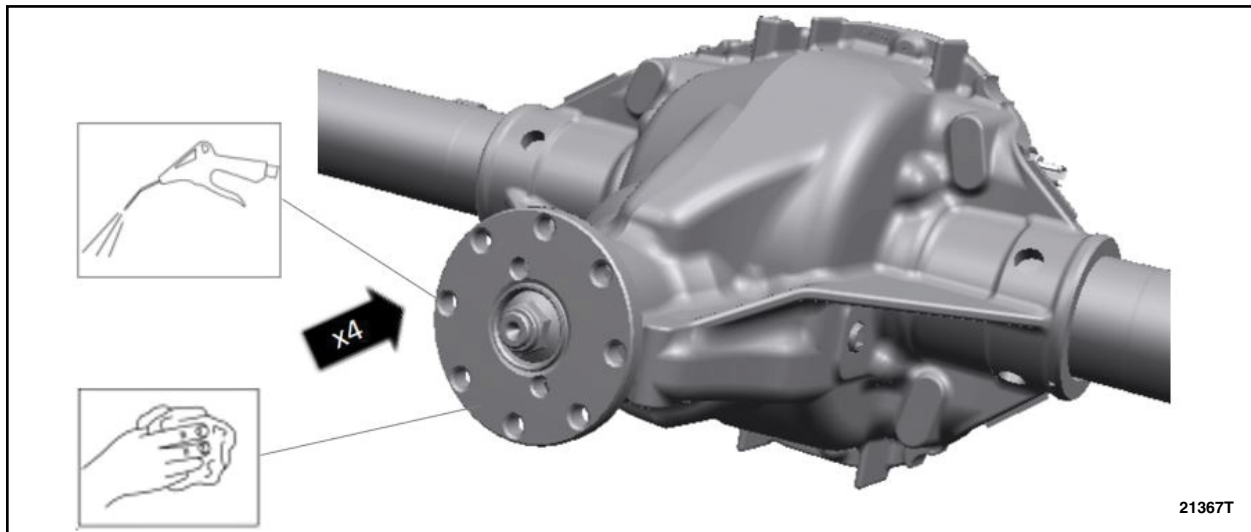

FIGURE 9
14. Using an air blow gun, remove any debris from threaded holes in axle flange. See Figure 9.